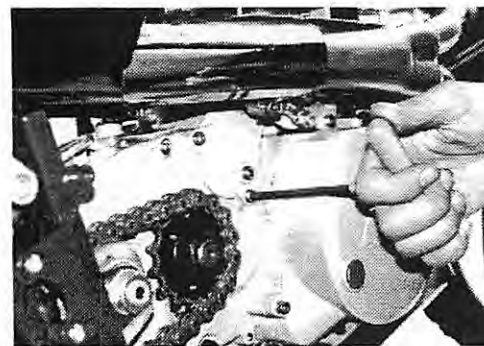

Figure 4.4
2. Remove the oil filter cover using a 5 mm Allen wrench. (Figure 4.4)